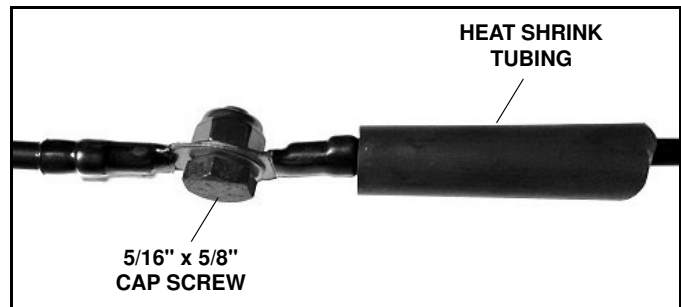

Figure 2
5. Remove the black wire from the parts bag. Slide the heat shrink tubing over one end until it is approximately 6 inches from the end. (See Figure 2.)